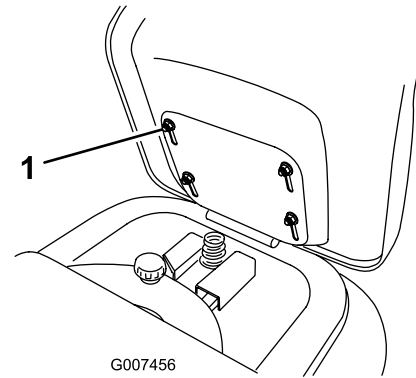

Figure 6
1. Raise the seat and loosen the 4 bolts (Figure 6).